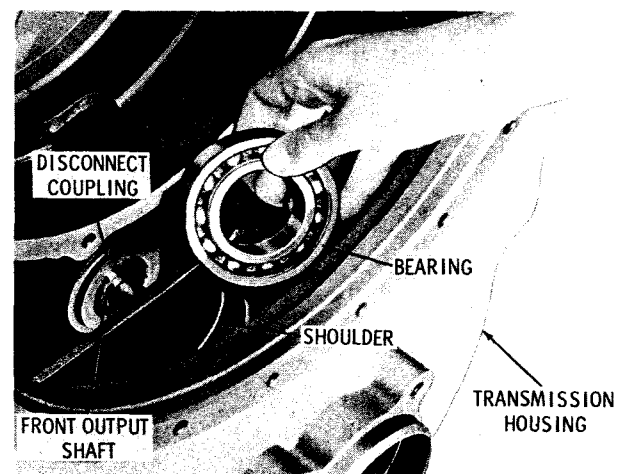

Fig. 7-7. Installing output shaft center bearing
(6) Install the output shaft center bearing, shield side first, into the web of the transmission housing (fig. 7-7). Press or tap on the bearing outer race to seat it against the shoulder in the housing web bore.
(1) Install bearing 18 (A, foldout 8), shield side first, into the web of the transmission housing (fig. 7-7). Press or tap on the bearing outer race to seat it against shoulder in the housing web bore.